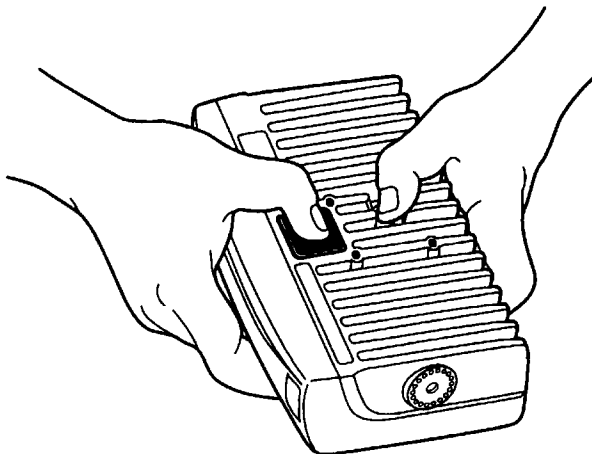

Figure 1-1. Removing the Housing
2. Remove the housing cover by pushing down on the release latch with one finger while sliding the cover off with the other hand (Figure 1-1).